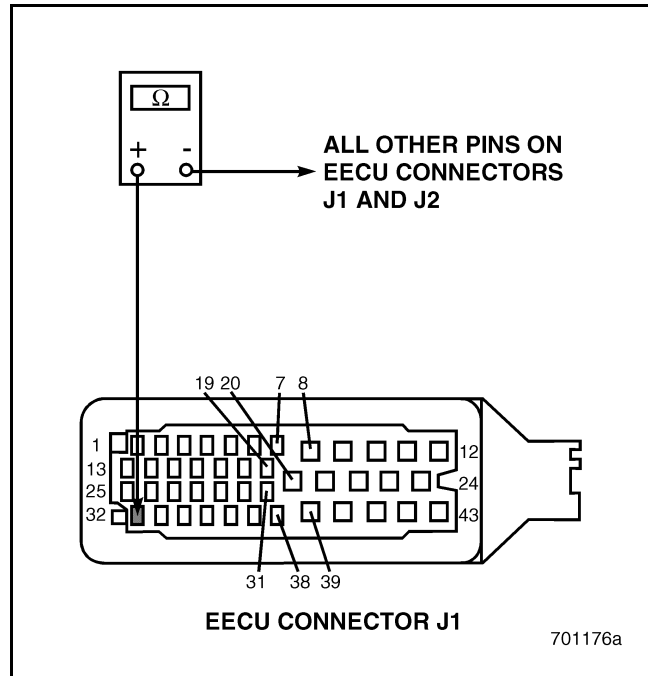

Figure 17
4. Check for continuity between EECU harness connector J1 pin 32 (reference voltage line) and all other pins in EECU harness connectors J1 and J2 (see Figure 17).